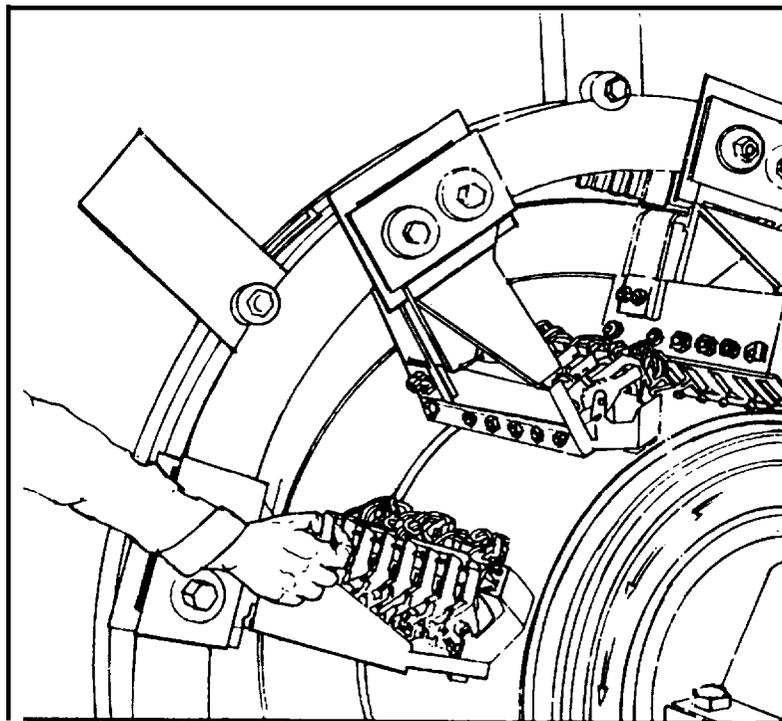

Figure 4-13. Inspecting and installing brushes on a large DC motor.
(2) *Brushes.* Maintenance and inspection of brushes should be performed regularly to ensure the following (fig 4-13):